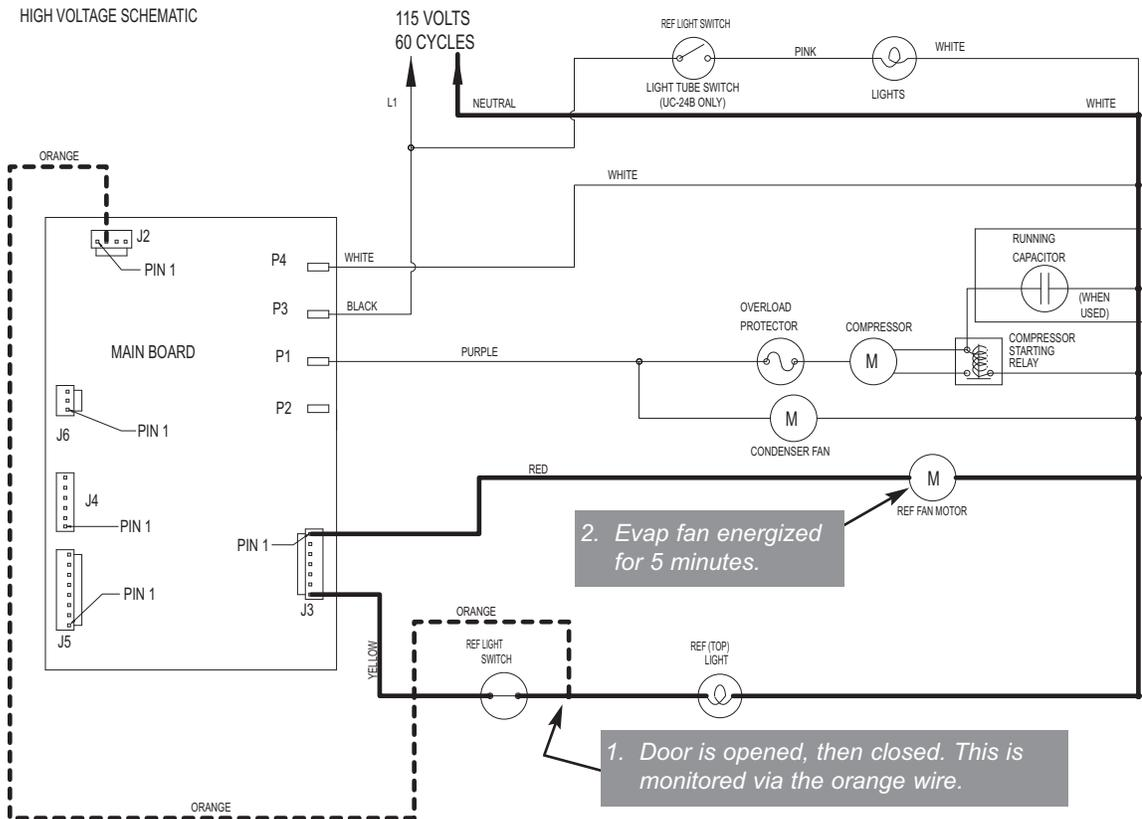

Figure 3-21. UC-24B Signal Trace Schematic - Evaporator Fan Operation in Glass Door Unit
To help minimize the formation of condensation, or fog, on the door glass of the model UC-24B, the microprocessor detects when the refrigerator door is opened, via the door switch, then when the door closes, the evaporator fan is energized for five (5) minutes, regardless of compressor operational state. This draws any warmer moist air away from the door glass. (See Figure 3-21)